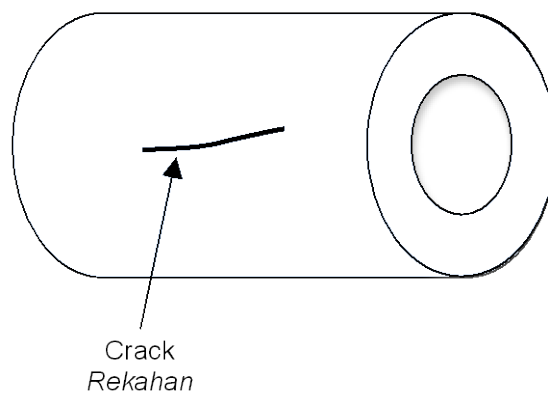

Figure 1: Hollow cylinder
- [b] Figure 1 shows a hollow cylinder (length = 100 mm, inner diameter = 20 mm, outer diameter = 30 mm). Explain and sketch the sequences for magnetic particle test to investigate the presence of crack at the cylinder.